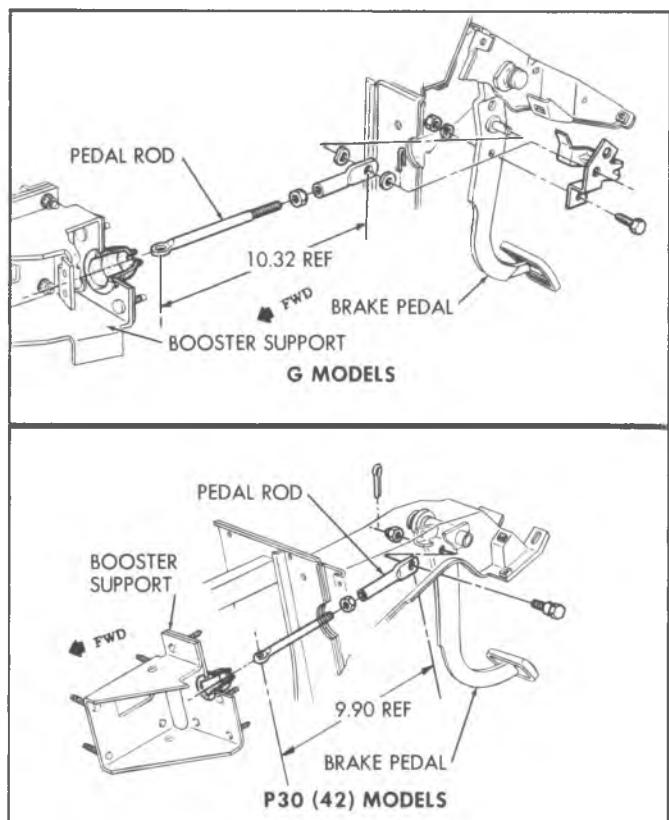

Fig. 95--Brake Pedal Adjustment--P30(42) and G Models
1. Adjust the pedal rod to the length shown in Figure 95 and install in the vehicle.
Replacement (Fig. 95)